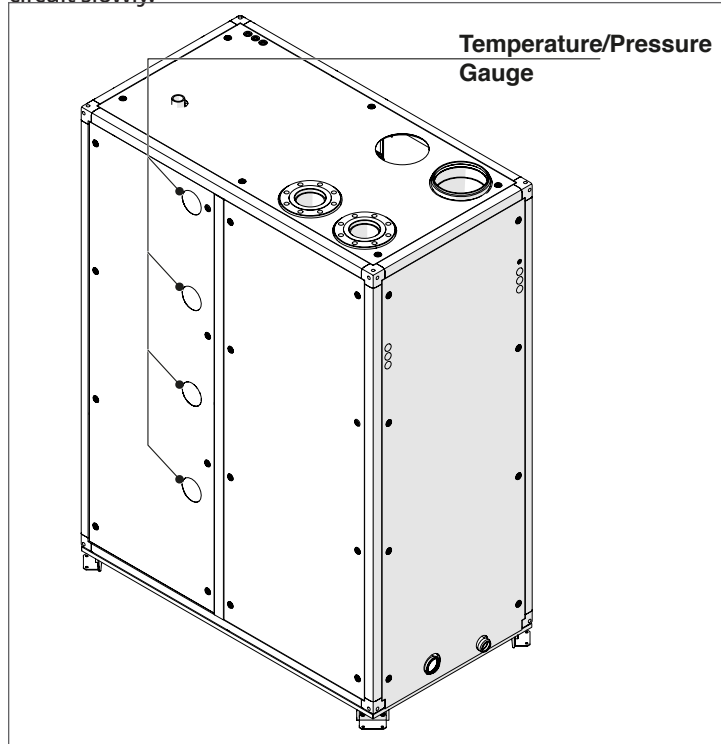

Fig. 55 Temperature/Pressure Gauge location
- Open the fill valve and proceed to fill the heating system and boiler until the pressure gauge (shown on Fig. 55), reads the pressure for which the heating system is sized. The heating system water pressure must be higher than 7.5 PSI.
Open the filling valve and check the pressure on the temperature/pressure gauge of Fig. 55.